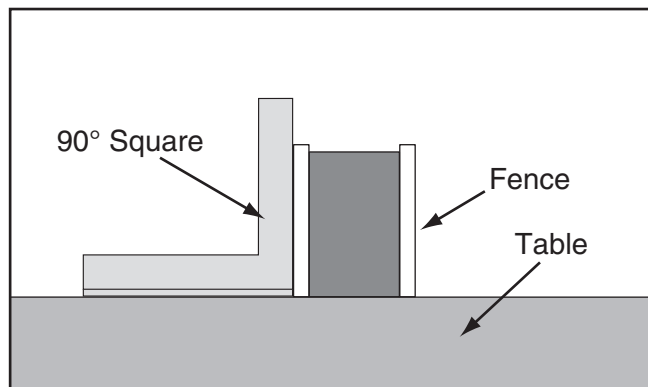

Figure 128. Checking if fence is square to table.
2. Place a square on the table against the face of the fence (**Figure 128**) to check if the fence is square to the table.